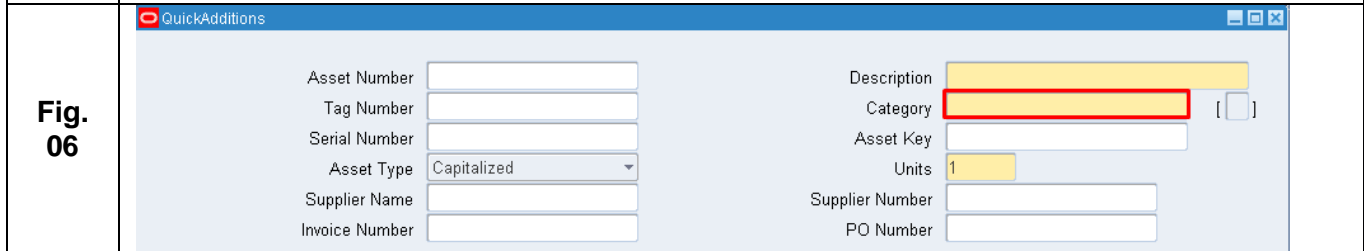

Fig. 06
STEP 6 In the **Category** field, click the ellipses and the **Category Flexfield** window will appear. (Refer to Fig. 06)